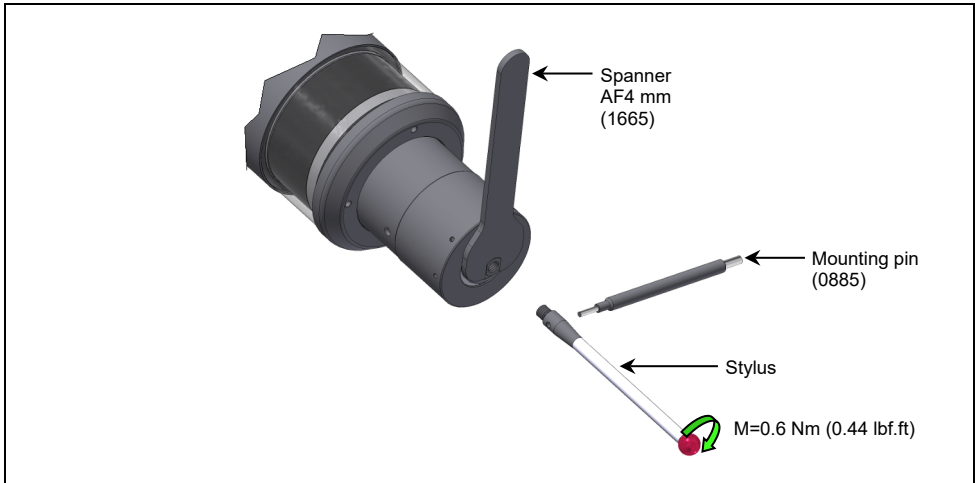

Fig. 6 Stylus change with measuring unit MY21.00
1. Carefully screw the new stylus with mounting pin into the touch probe (Fig. 6).